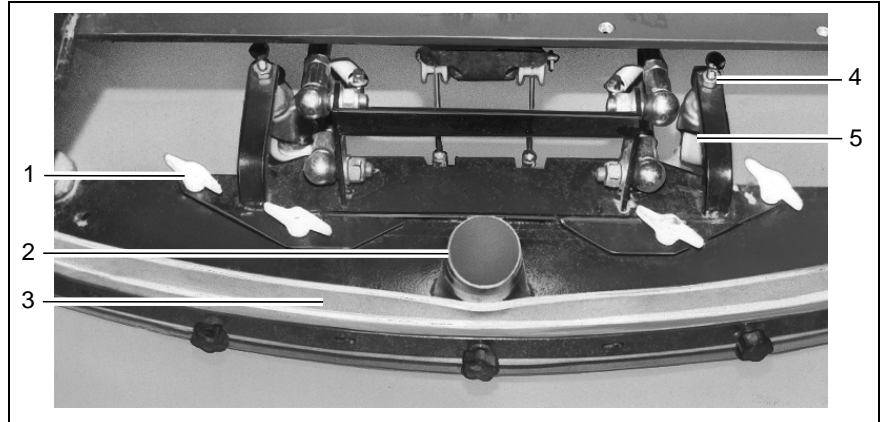

Fig. 9
5. Slide the squeegee from the rear under the lowered holding attachment and fix the squeegee to it with the four wing nuts (Fig. 9/1).
6. Attach the suction hose to the connection nozzle (Fig. 9/2) of the squeegee.
The squeegee must be set up on a level floor according to the conditions in which it is to be used. The squeegee must stand vertically on the floor (adjusted at the factory). The sealing strip (Fig. 9/3) should bend slightly to the rear when the vehicle is in operation. Supporting rollers (Fig. 9/5) limit its movement toward the floor. To increase the squeegee contact pressure, the supporting rollers must be adjusted:
- Loosen the counternuts (Fig. 9/4) and raise the supporting rollers on the left and right evenly (turn screw counterclockwise and lock again).